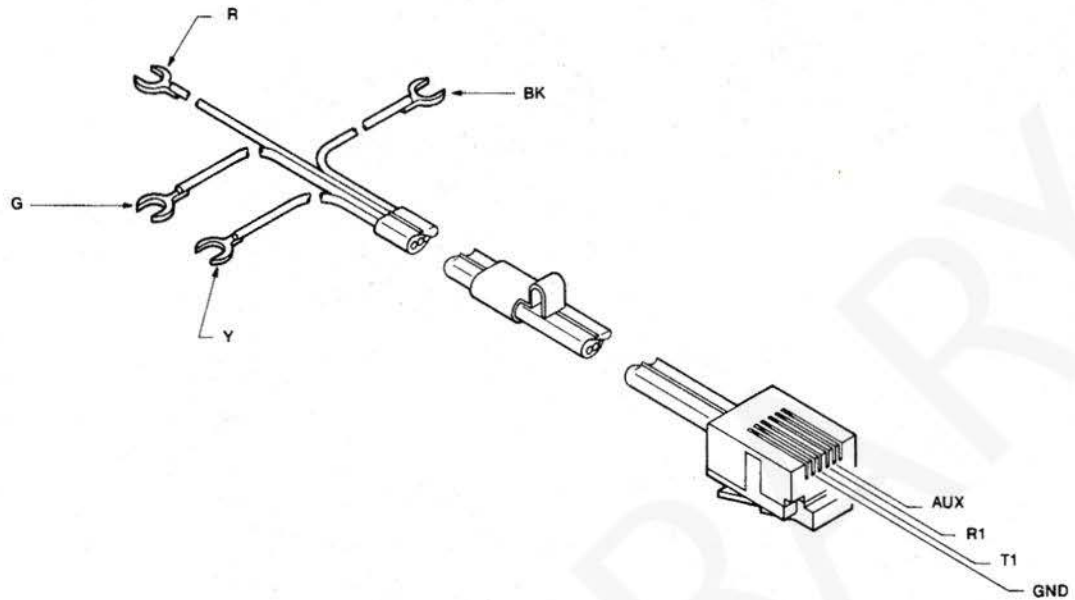

Fig. 4 - NE-D4QH Cord
4.05 Leads in the NE-D3QA-87, NE-D4QH-87 and NE-D6QF-87 mounting cords are identified by color. (Refer to Fig. 4 through 6).